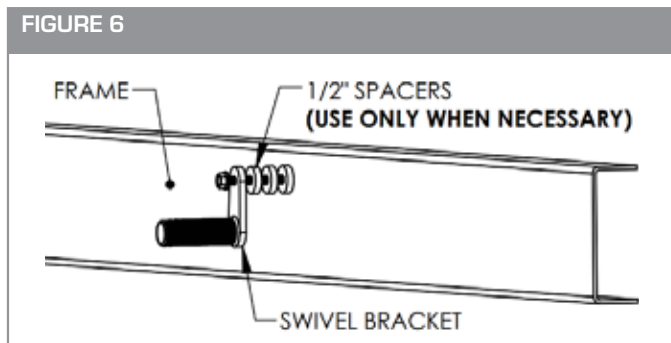

FIGURE 7
- A. Once the brackets are in position with the fender, tighten the 5/8" x 4-1/2" bolt that goes through the (10001472/10001474) swivel bracket to attach the swivel securely to the frame. (See Figure 7)